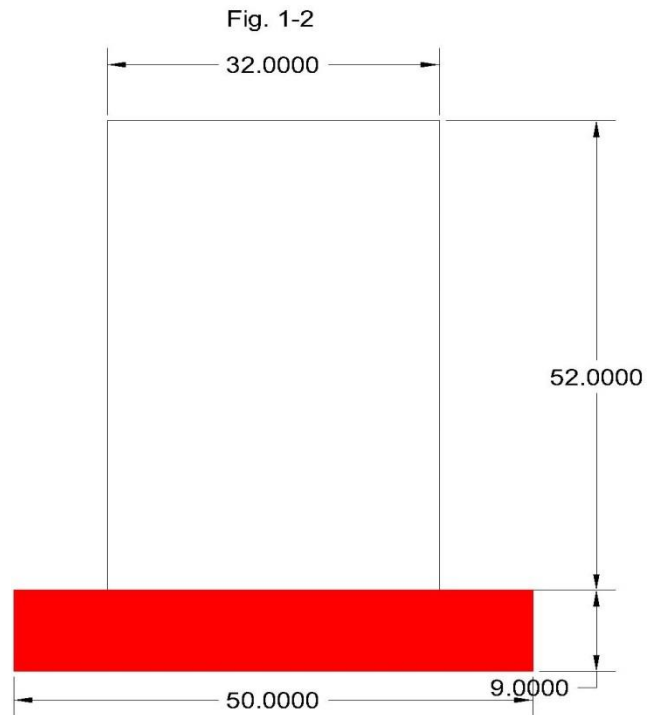

Fig. 1-3
- Using a single piece of self-adhesive flashing tape, make a sill pan with end dams (sides) that run up the rough framing jamb at least 6" and fold over onto the face of the rough opening and extend outward from the rough opening at least 2". (Figure 1-3 and 1-4)